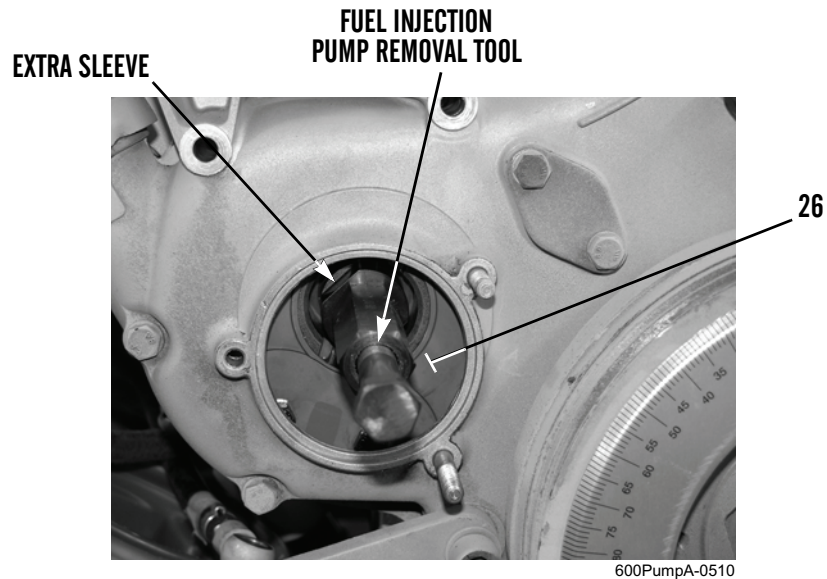

Figure 12. Removing Fuel Injection Pump.
23. Use fuel injection pump removal tool and extra sleeve (Figure 12) to remove fuel injection pump (Figure 11, Item 1) from fuel injection pump timing gear (Figure 12, Item 26).